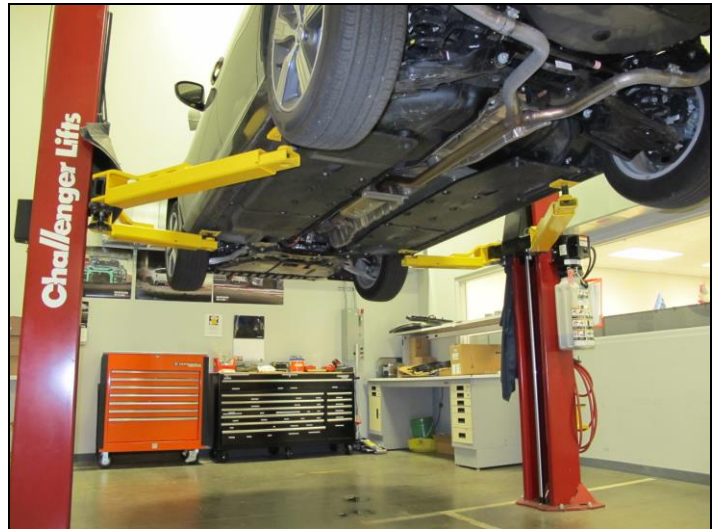

Figure 2
2. Place Altima on lift (Figure 2).